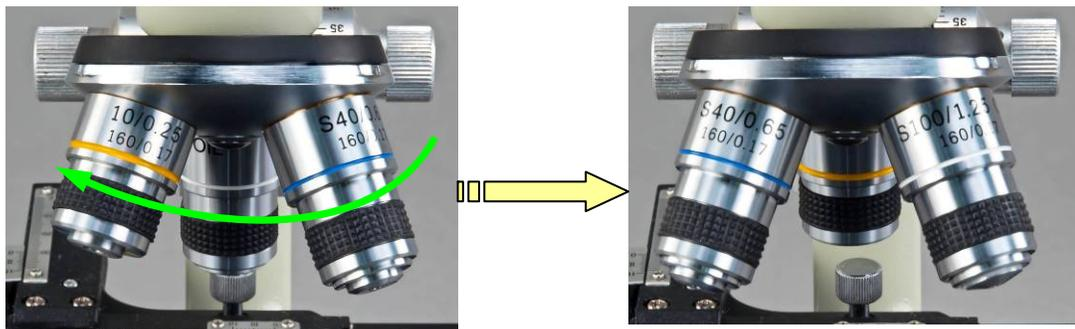

Fig. 2
- 2) Take the objectives out from the plastic storage cases and turn each one clockwise into the holes on the nosepiece. Install the 10X objective into the nosepiece first. Then in a counter-clockwise direction, rotate the nosepiece and install each succeeding higher magnification objective as shown in **Fig. 2**.